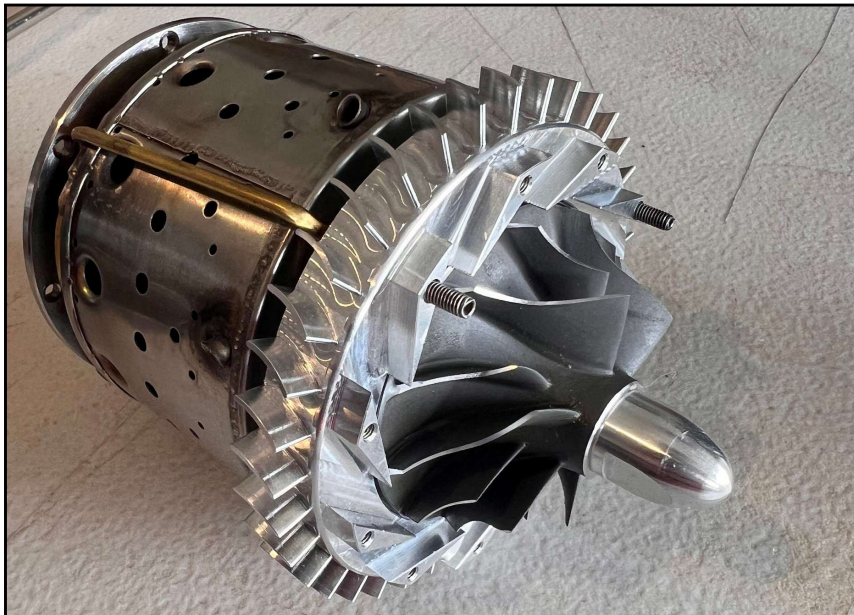

Figure 11: Compressor with bullet-shaped nut installed
6.1: Slide the casing housing over the aft end of the engine assembly past the green O-ring. (O-ring visible in Figure 11.)